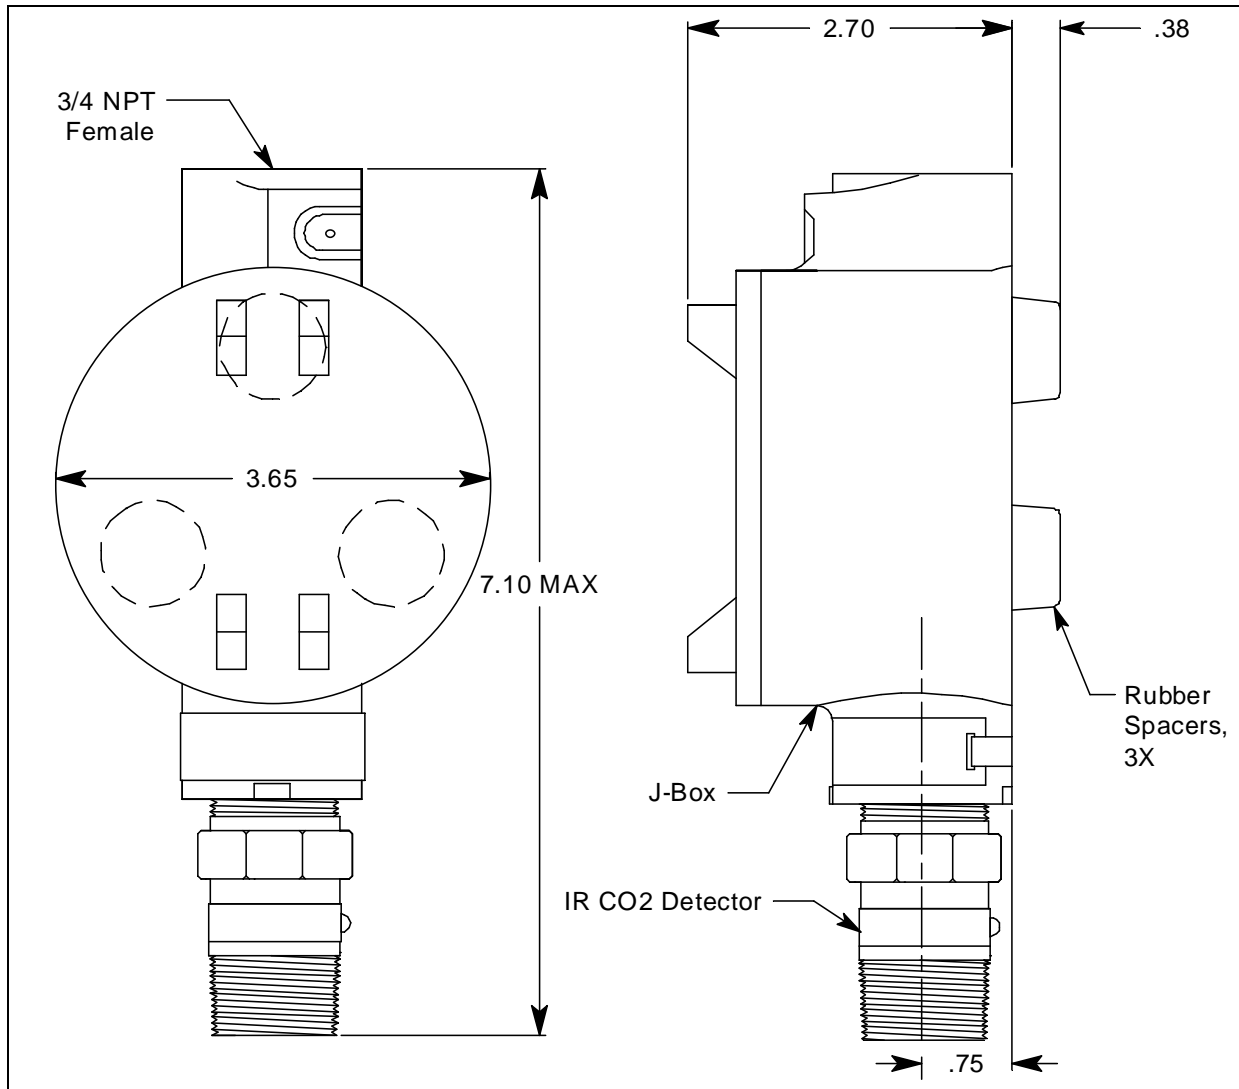

Figure 2: Mounting the CO₂ Transmitter
2. At the monitoring site you select, hang or mount the junction box with the detector facing down (see Figure 2).